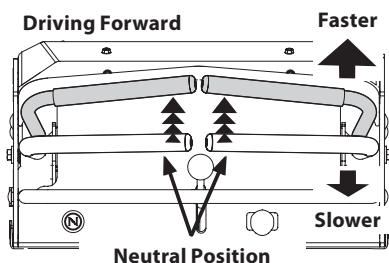

Fig. 11
1. Slowly and evenly move both drive control levers forward. The mower will start to move forward (Fig. 11).